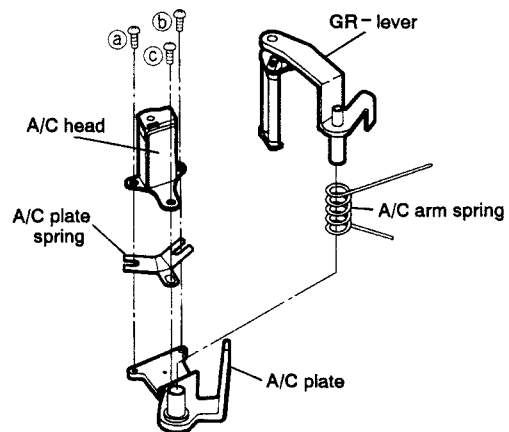

Fig. 3-9-2
- ⑤ Pull out the GR-lever roller and A/C arm spring off the A/C plate as shown in Fig. 3-9-2.
- ⑥ Remove screws ①, ② and ③. Remove the A/C head and A/C plate spring from the A/C plate.
- ⑦ Desolder the lead wires at the A/C head.